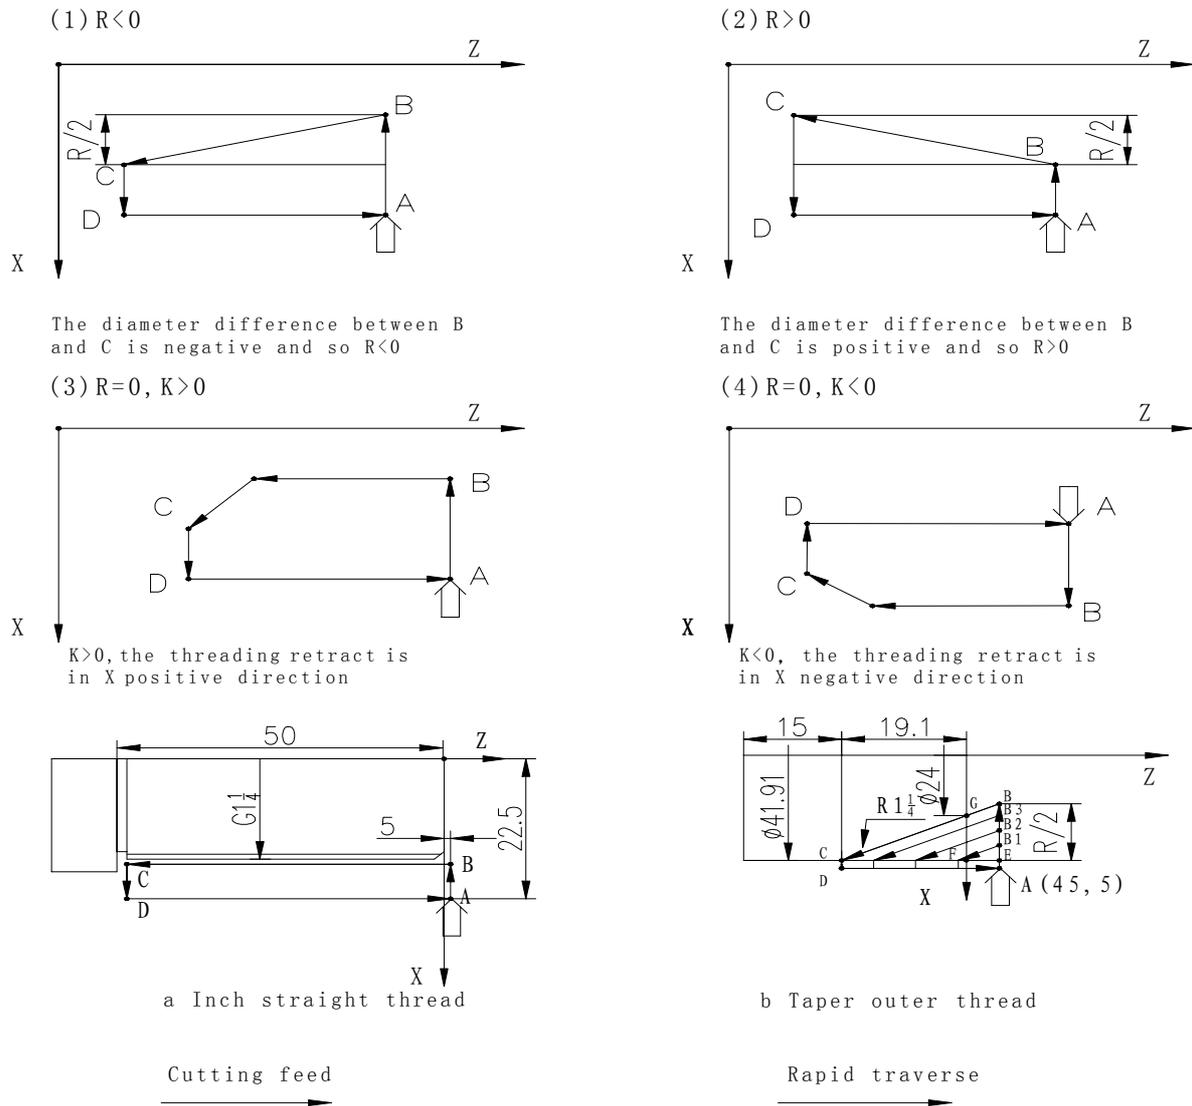

Fig.17 G92 thread cutting cycle
**Example 1:** Metric straight thread as Fig. 17 a. ( $G1\frac{1}{4}$ :11 teeth,  $D=41.910$ ,  $D2=40.431$ ,
**Example 2:** Outer taper thread as Fig. 17 b ( $R1\frac{1}{4}$ : D=41.910, D2=40.431, D1=28.952, P=2.309, the valid length of thread is 19.1)